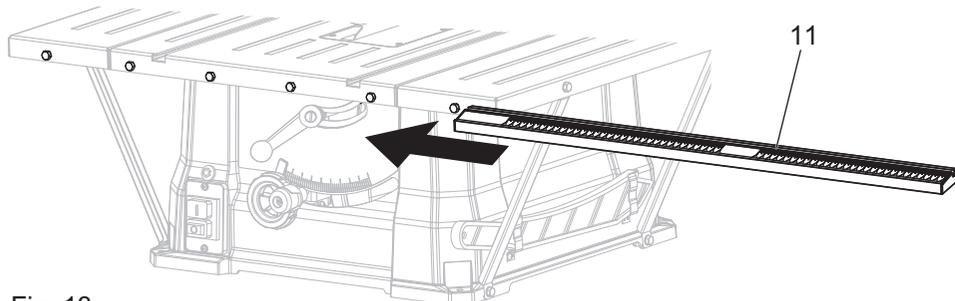

Fig. 13
- > Push on the front guide rail [11] with slot of the front guide rail aligned with the six hex nuts M6 [30] as shown in the Fig. 13.